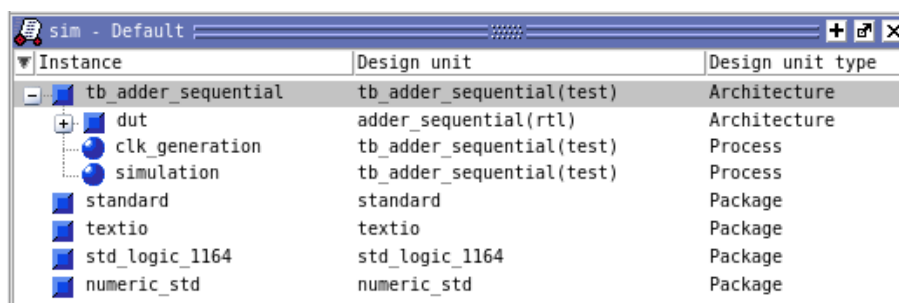

Figure 16: Simulation tab
4. In the sim tab, click on tb_adder_sequential (Figure 16).